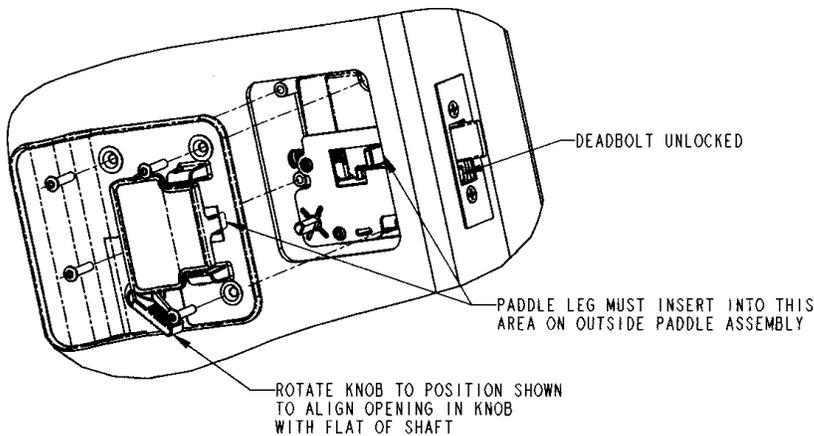

Fig. 9
**SECURING THE INSIDE PADDLE ASSEMBLY TO THE OUTSIDE PADDLE ASSEMBLY (FIG. 9)**
Make sure the inside paddle is pushed in as far as possible. Align the leg of the paddle into the opening shown while installing, and rotate the inside knob to align correctly with the shaft on the outside paddle assembly (Fig. 9). Secure with mounting screws shown in Table 1. Do not tighten screws at this time.